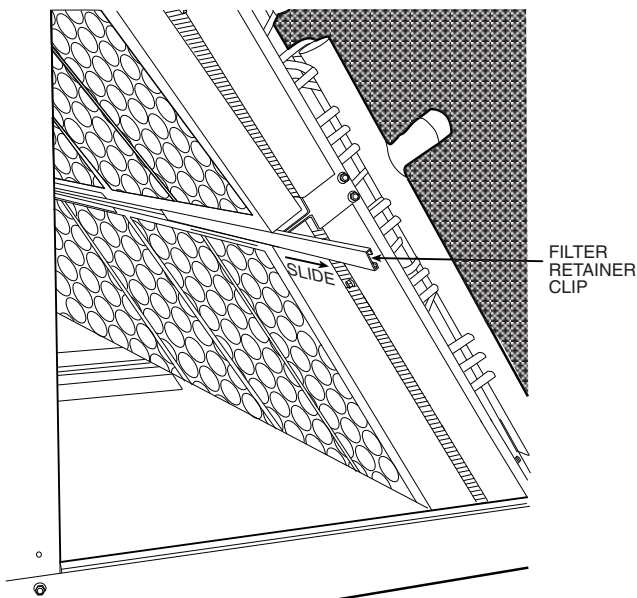

Fig. 27 — Remove Filter Retainer Clip
2. Remove the filter retainer clip (see Fig. 27).